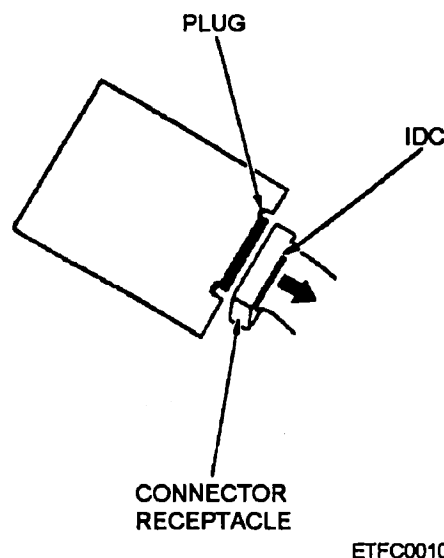

Figure 2-16.—Single-piece pcb or card-edge connector.
**SINGLE-PIECE PCB OR CARD-EDGE CONNECTORS.**— Single-piece pcb or card-edge connectors are used internally. They are the most widely used connectors for making connections from a pcb (plug) to a receptacle; cable, another pcb, or a larger item such as a backplane receptacle. Figure 2-16 shows a single-piece pcb or card-edge connector. Connection can also be made from the pcb edge to a wire (soldered). Terminations of conductor to receptacle include solder and solderless (wire wrap, crimping, pin removal and insertion, or Mass-Termination Insulation Displacement Connection (MTIDC) or Insulation Displacement Connection (IDC).